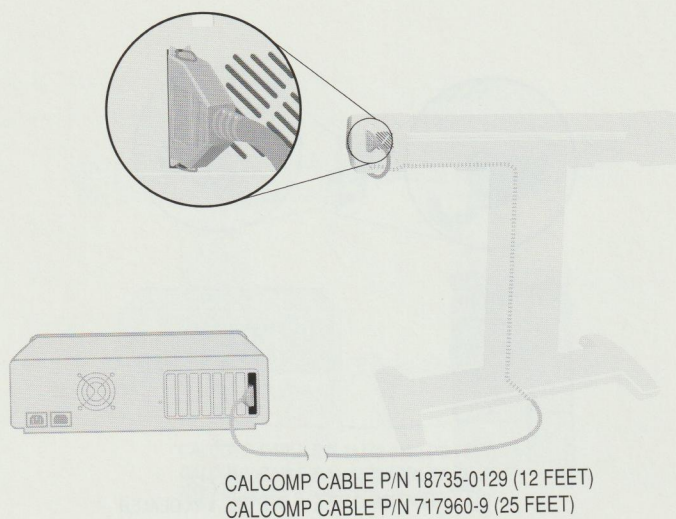

Figure 2-7. Centronics (Parallel Port) with IBM PC, XT, AT, or Equivalent
- IBM PC or equivalent (Figure 2-7)
- IBM XT or equivalent (Figure 2-7)
- IBM AT or equivalent (Figure 2-7)